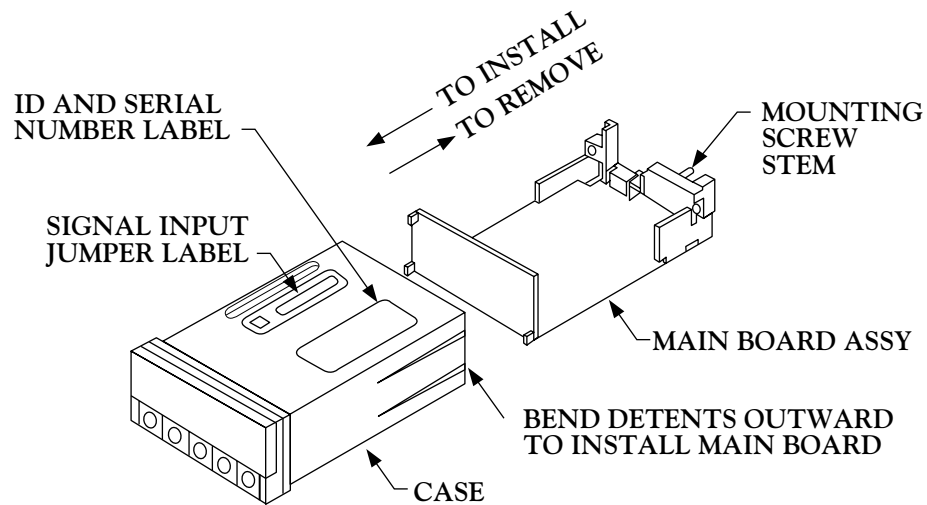

Figure 2-4. Removing the Main Board Assembly from the Case
6. Using Figure 2-4 as a guide, bend the side-panel detents on the case outward and pull the board assembly out of the case by the mounting screw stem.